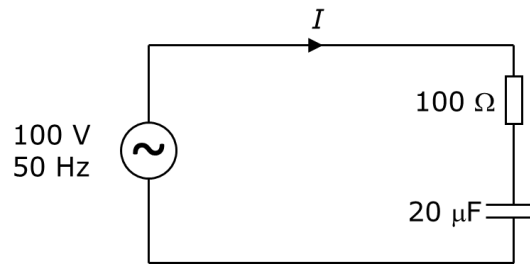

Fig. Q.2
2. A 100 Ω resistor and a 20 μF capacitor are connected in series across a 100 V (rms) 50 Hz supply (Fig. Q.2). Calculate the current in Cartesian and polar form, and explicitly state its magnitude and phase angle. [6]